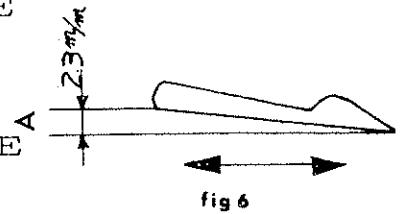

fig 6
WITH THE LEFT LOOPER AT THE BOTTOM OF LOOPER HOLDER (P), THE CORRECT SPACE OF 2.3mm IS OBTAINED BY ROTATING LOOPER AS SHOWN IN (FIG. 6). THE LOOPER IS HELD IN PLACE BY SCREW (B).